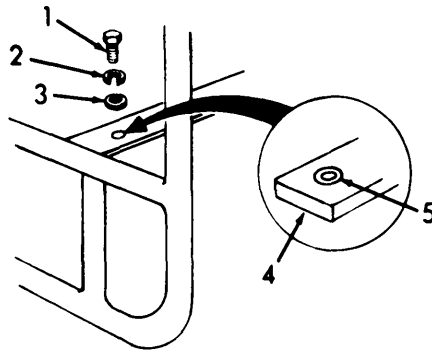

Figure 4-5. Channel removal.
(1) Remove exhaust system as per 4-4.
(2) Remove fuel lines and filter as per 4-2.1.
(3) Remove centrifugal pump as per 4-6.1.
(4) Remove engine as per 4-5.
(5) Remove fuel tank as per 4-2.1.
(6) Refer to figure 4-5. Remove capscrews (1), lock washers (2), and flat washers (3).
(7) Remove channels (4) and shock mounts (5).
(1) Refer to figure 4-5. Repeat the removal procedure in reverse sequence.